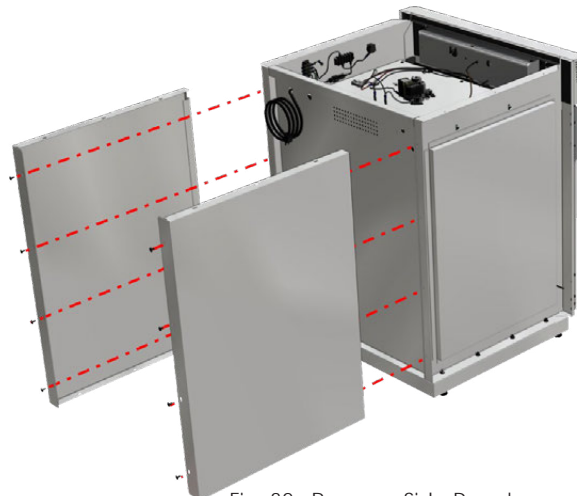

Fig. 32: Remove Side Panels
3. Remove the screws at the back of the cabinet and slide out both side panels (Fig. 32).